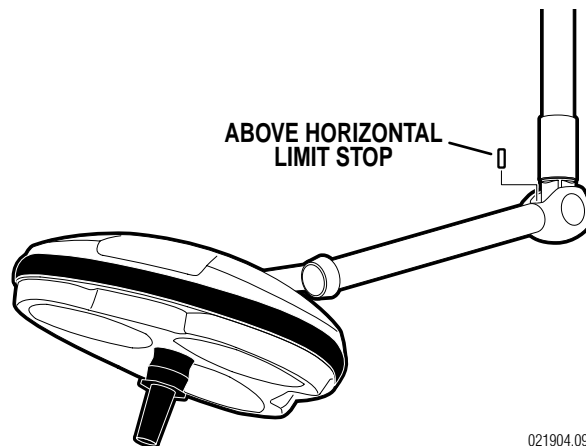

Figure 7. Above Horizontal Limit Stops
d. Pull the lighthouse down and remove the Above Horizontal Limit Stops from the BOM. See figure 7.